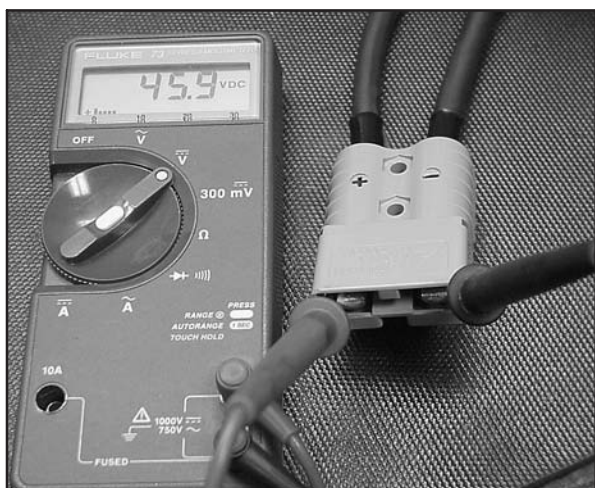

**Fig. 32**
3. Attach Red meter test lead (1) to to contactor post (1).
4. Attach Black meter test lead (3) to contactor post (2), Fig. 32.